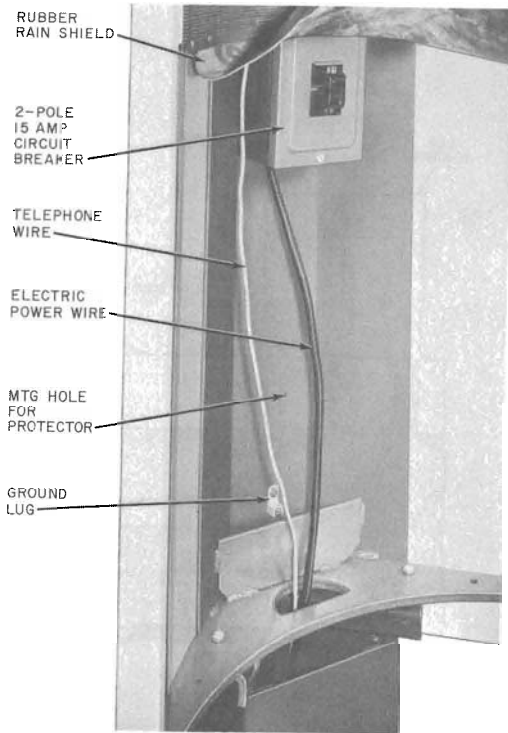
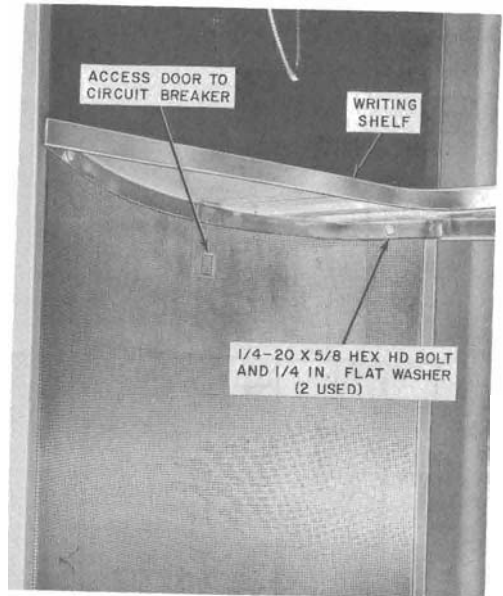

Fig. 13—Left Bottom of Booth With Panel Removed
Fig. 14—Lower Left Inside Panel
**2.13** A 2-pole, 15-amp pushbutton circuit breaker (Fig. 13) is located under the shelf in the left wall, protected by a rubber rain shield. Access for operating the circuit breaker switch (which is operated by pushing on the rain shield) is through a small sliding door (Fig. 14) in the perforated panel. The circuit breaker and lamps are prewired
**3.11** Install the 123A1A protector (furnished locally) using the mounting holes provided near the circuit breaker (Fig. 13).
**3.17** Install the lower left inside wall panel in reverse order from which it was removed (see 3.10) being careful to place the circuit breaker access door at top (Fig. 14).